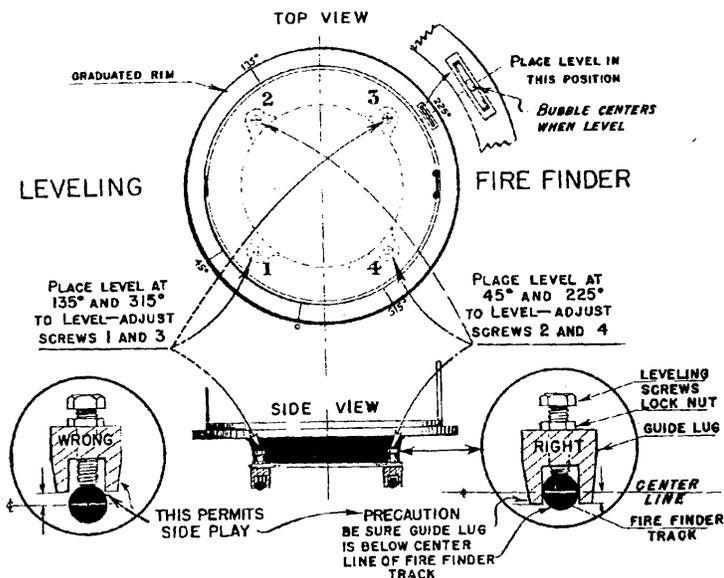

Figure 99 Leveling the Firefinder
- a. Place a level tube on machined surface of graduate rim (Fig.99) at about 45 degrees (45°) azimuth.
- b. If the bubble in the level tube is not level, turn leveling screws until bubble in level tube is exactly centered. (See Fig. 99.)
- d. Keep guide lugs on the base of the firefinder below the center of track to prevent side play. WHY: To prevent errors in horizontal readings. The slightest side play will make horizontal angle readings incorrect. (See Fig. 99.)